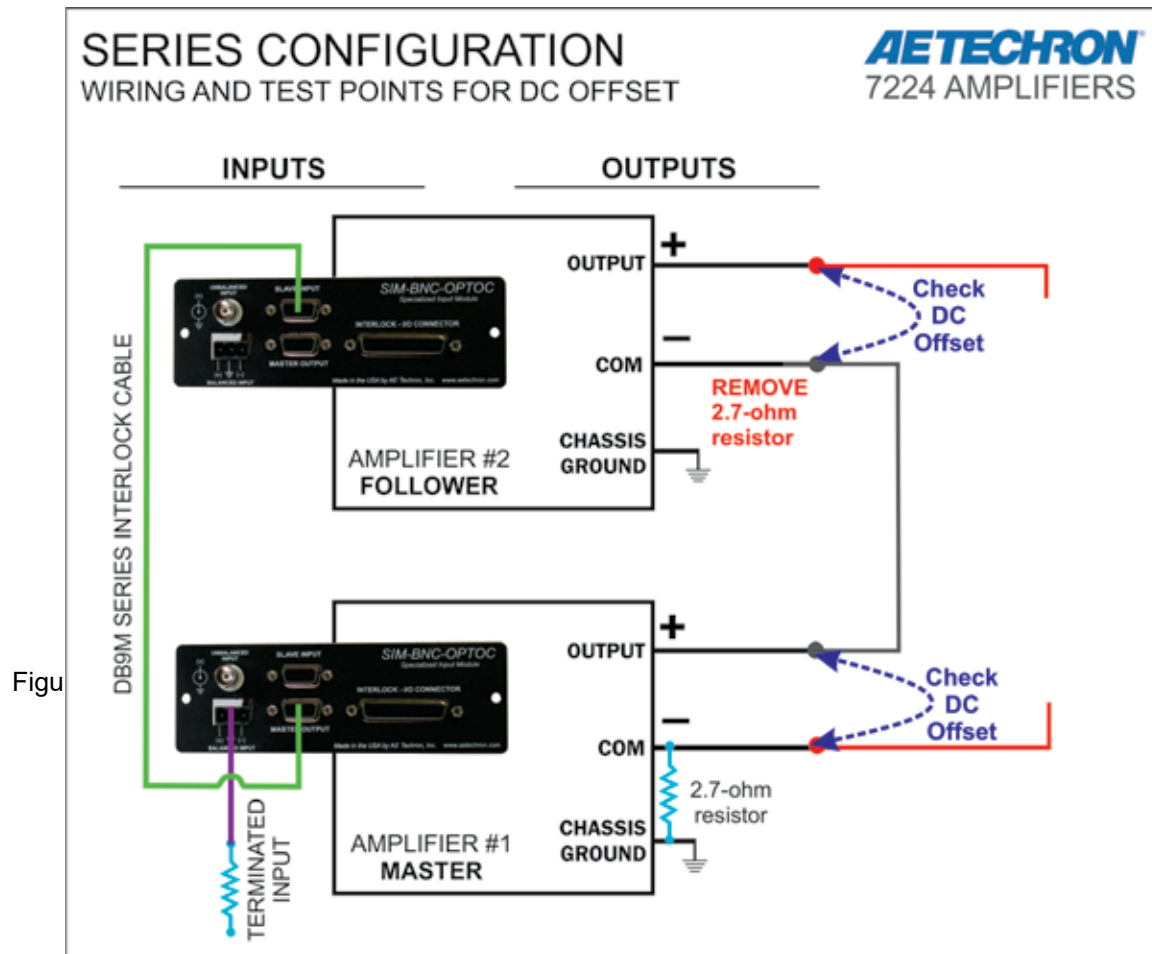

Figure B.2.40 – Wiring and Test Points for DC Offset
- F. Using a digital voltmeter set to DC, measure across each amplifier's back-panel output connector terminals (OUTPUT to COM) to verify that the DC offset of each amplifier is less than 10 mVdc. See **Figure B.2.40**. NOTE: If any amplifier's DC offset is greater than 10 mVdc, the amplifier may require servicing. Contact **AE Techron Technical Support**.